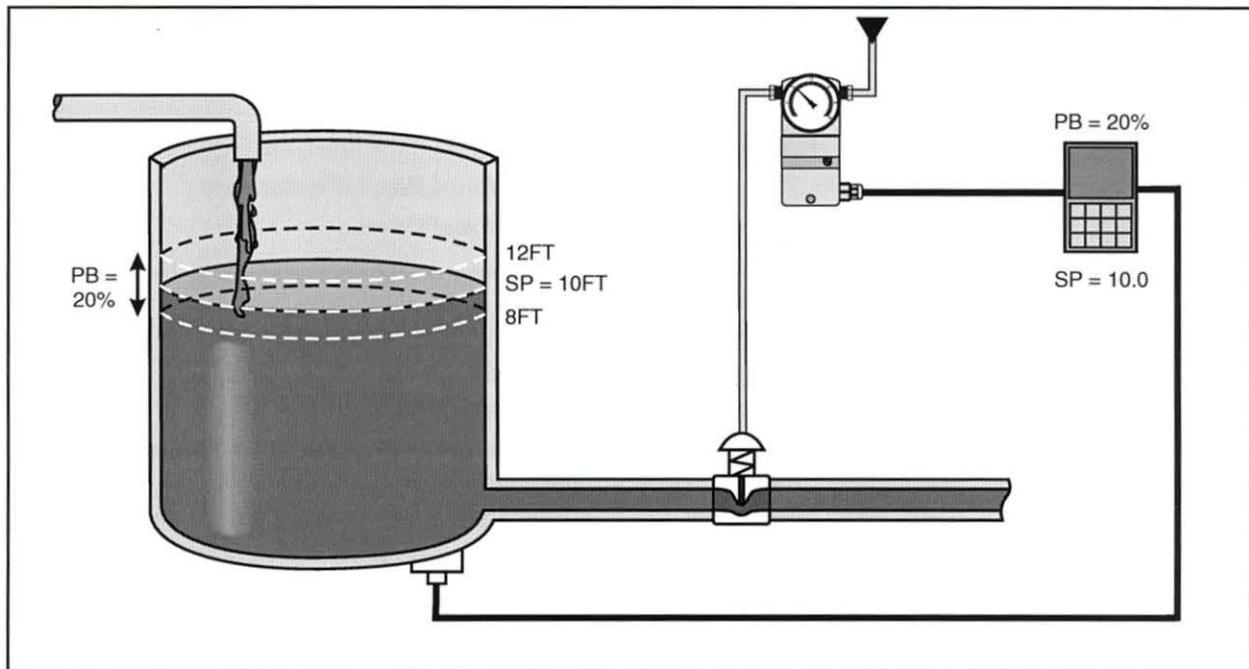

Figure 22. Level Control System with a PB of 20%
The proportional band (PB) better quantifies what happens with the process by describing the range in which the PV is proportionally controlled. For example, figure 22 shows a level control system using a controller that has a setpoint of 10 ft and a PB of 20%. The operating range is from 0 to 20 ft. Twenty percent of 20 ft is 4 ft. Therefore, the level is proportionally controlled within a band of 4 ft around the setpoint (i.e. between 8 and 12 ft.)